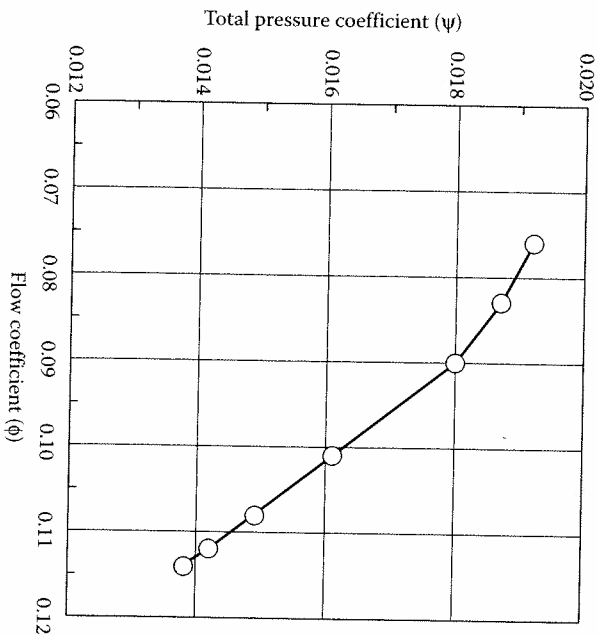

FIGURE P5.7a Dimensionless performance of a tube axial fan. Sizes available (diameter, in.):
- 5.7. Select a tube axial fan that delivers 2 m³/s at a static pressure rise of 70 Pa using a Cordier analysis aimed at Figures P5.7a and P5.7b.